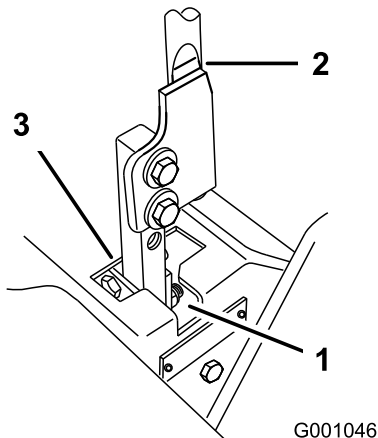

Figure 76
5. Move the lever to the neutral position but not locked (Figure 76).
6. Pull the lever back until the clevis pin (on arm below pivot shaft) contacts the end of the slot (just beginning to put pressure on the spring) (Figure 76).
7. Check where the control lever is relative to notch in console (Figure 76). It should be centered allowing lever to pivot outward to the neutral-lock position.